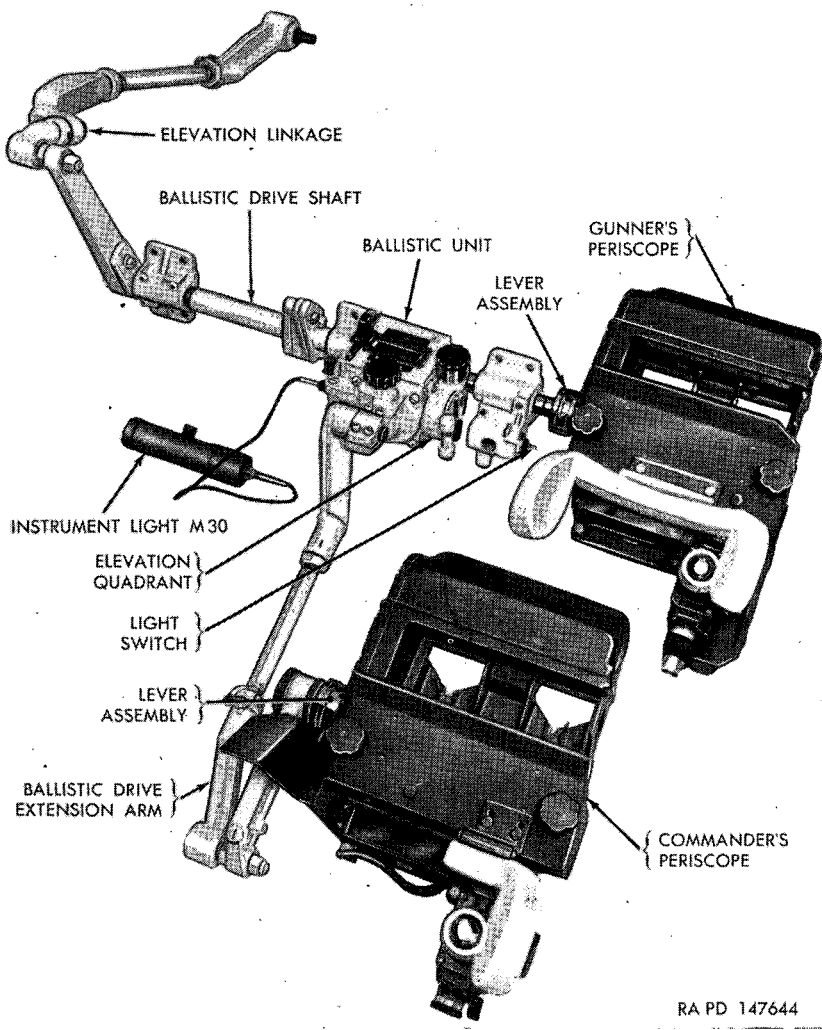
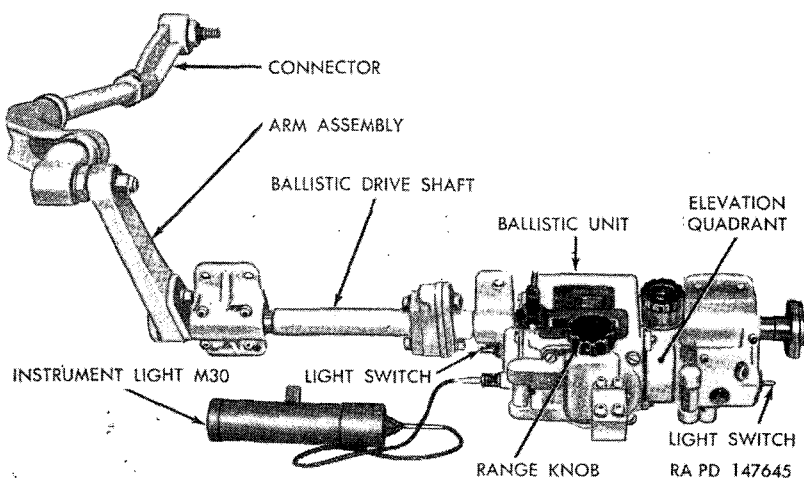

Figure 51. Arrangement of ballistic drive T23E1, gunner's periscope mount T176, and commander's periscope mount T177.
Figure 52. Ballistic drive T23E1, elevation quadrant T21 and instrument Light M30.
a. DESCRIPTION. The ballistic drive T23E1 (figs. 51, 52, 53, and 54) is composed of two units: a ballistic unit and an arm assembly. The ballistic unit applies an elevation correction to the angle of sight depending on the range and type of ammunition used. The arm assembly (fig. 52) connects periscope T35 to the gun linkage by means of a connector.